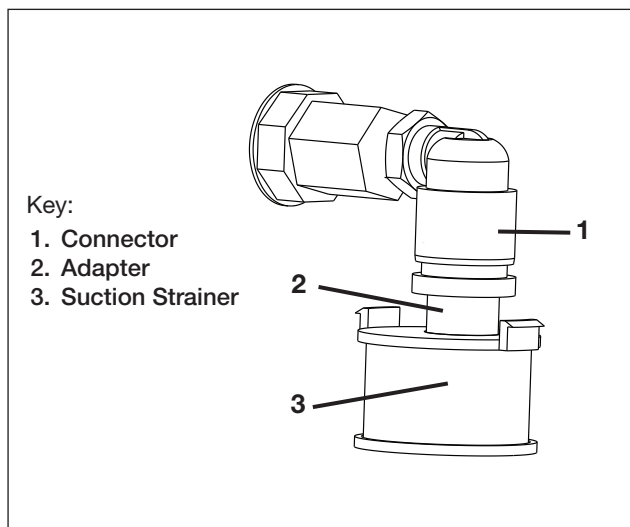

**Figure 15 - Manifold Assembly**
- Remove the bolts and sealing washers securing the hydraulic manifold and cover plate to the hydraulic reservoir. See Figure 15.
- Carefully lift the manifold and cover plate assembly straight up until it is removed from the hydraulic reservoir. See Figure 15. Set this assembly aside, in a clean and dry location.